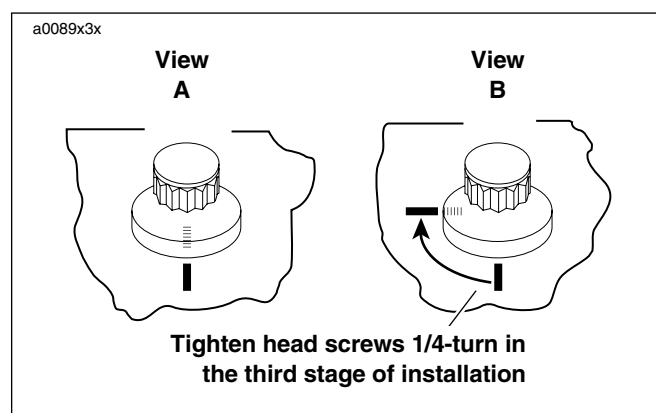

Figure 3-86. Tightening Head Screws
- c. See Figure 3-86. Mark cylinder head and head screw shoulder with a line as shown (View A).